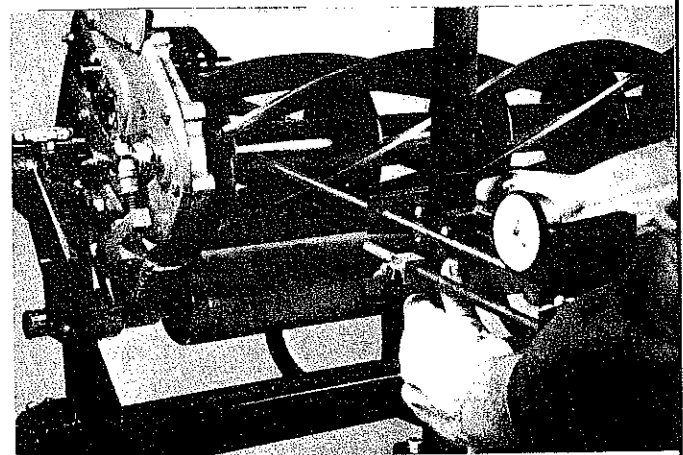

FIG. 74
- E. Move the alignment gauge to the left side of the reel carefully retracting the indicator rod so as not to damage or change setting. Set indicator rod on the same position on the reel as on the other side, that is 2" from the end and centered on the shaft. (See FIG. 74) Now read the dial indicator to determine the distance the reel is out of position. (See paragraph "F" for example—STEP 2.)